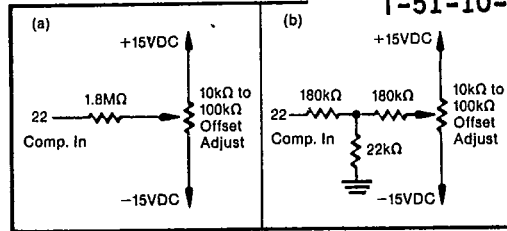

FIGURE 6. Two Methods of Connecting Optional Offset Adjust.
Initial Gain and Offset errors are factory-trimmed to ±0.1% of FSR (±0.05% for unipolar offset) at 25°C. These errors may be trimmed to zero by connecting external trim potentiometers as shown in Figures 6 and 7.
Gain and Offset errors may be trimmed to zero using external gain and offset trim potentiometers connected to the ADC as shown in Figures 6 and 7. Multiturn potentiometers with 100ppm/°C or better TCRs are recommended for minimum drift over temperature and time. These pots may be any value from 10kΩ to 100kΩ. All resistors should be 20% carbon or better. Pin 27 (Gain Adjust) should be bypassed with 0.01μF to reduce noise pickup and Pin 22 (Offset Adjust) may be left open if no external adjustment is required.
**OFFSET**—Connect the Offset potentiometer as shown in Figure 6. Sweep the input through the end point transition voltage that should cause an output transition to all bits off ( $E_{IN}^{OFF}$ ).